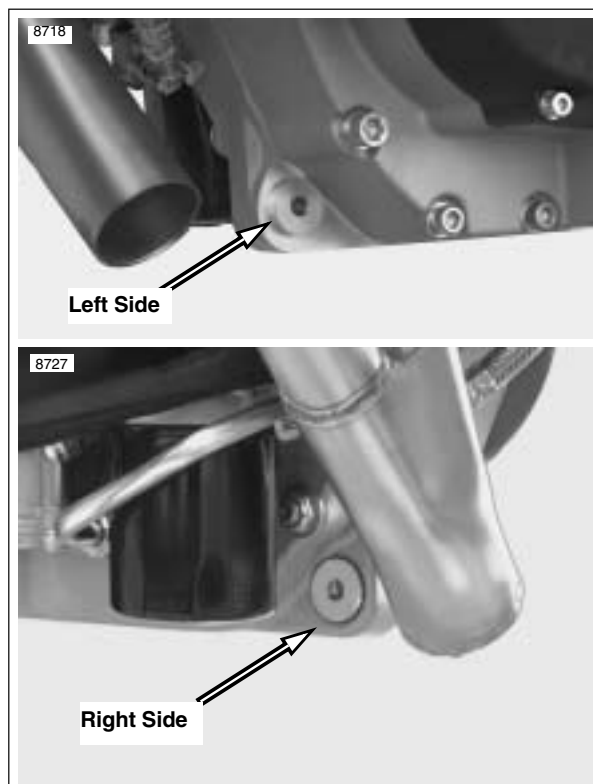

Figure 3-36. Front Exhaust Mount Bushings (2 piece)
- d. See Figure 3-36. Install aluminum bushings from front exhaust mount.